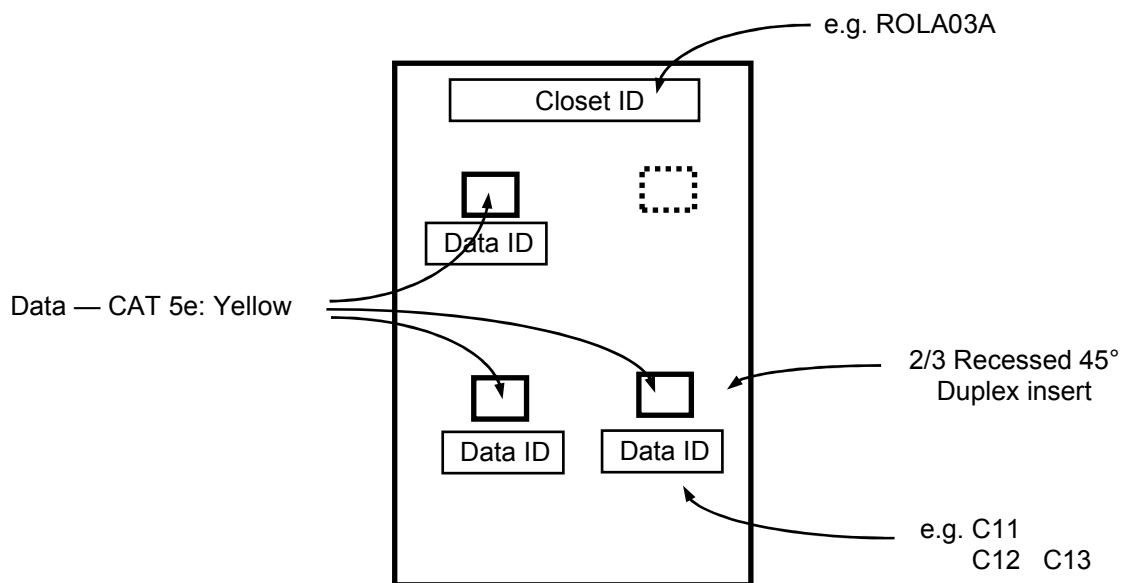

Fig. 2
2. The faceplate shall be labeled using the SMHS naming convention and a machine-generated black-on-white label using a label-making device, such as the Brother “P-touch” labeler or equivalent (see Fig. 2 for exact placement). **Handwritten labeling on the faceplate is not allowed.** A non-serif font of sufficient size that is easily read should be used.